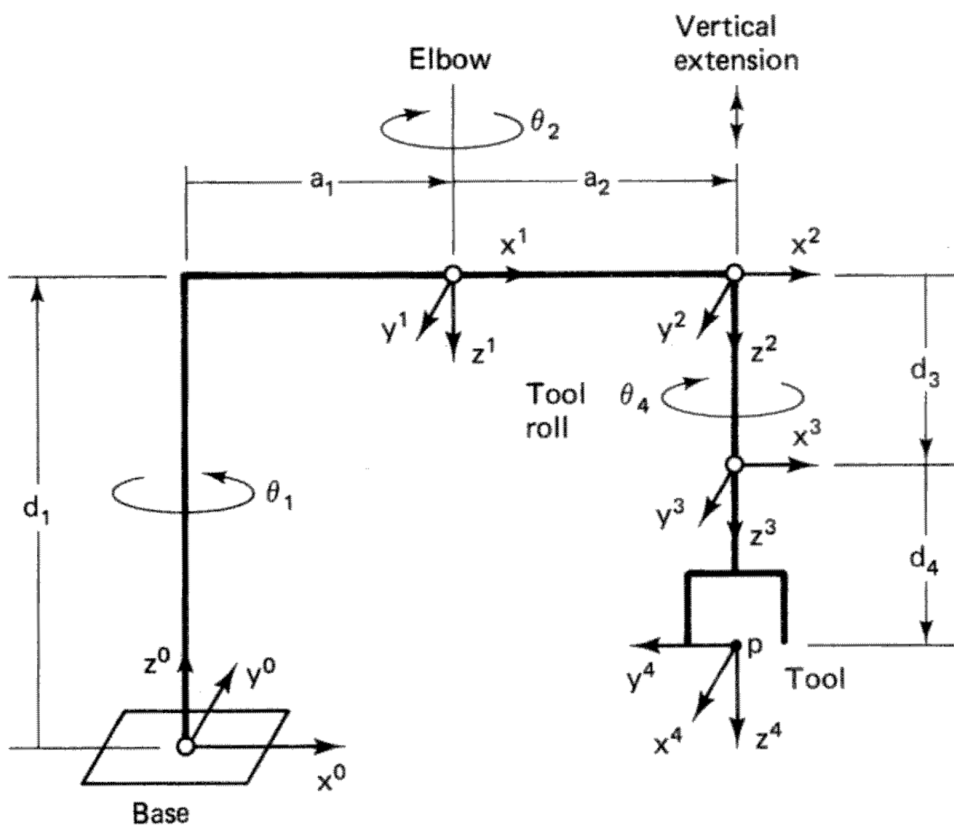

Figure 4: SCARA manipulator (Adept One).
Task 2.4: (3 points) An important type of manipulator is the SCARA type, a manipulator with four vertically aligned joint axes. Figure 4 shows the joint coordinate frames of such a manipulator (Adept One).
2.4.1: Verify the manipulator shown in Figure 4 according to the Denavit-Hartenberg convention.